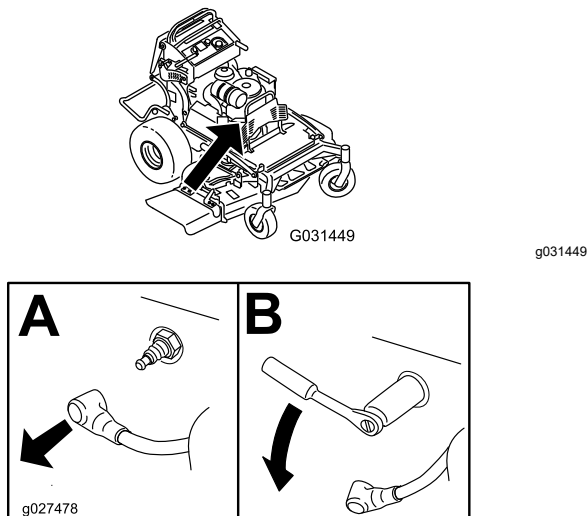

Figure 47
3. Remove the spark plug as shown in Figure 47.